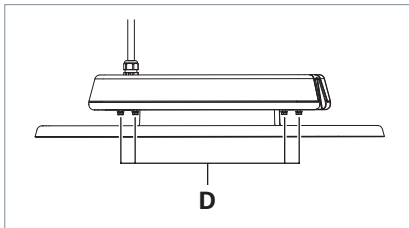

Fig. 9: Unscrew the screws.
- ▶ Unscrew the four screws **D** from the luminaire, see Fig. 9.